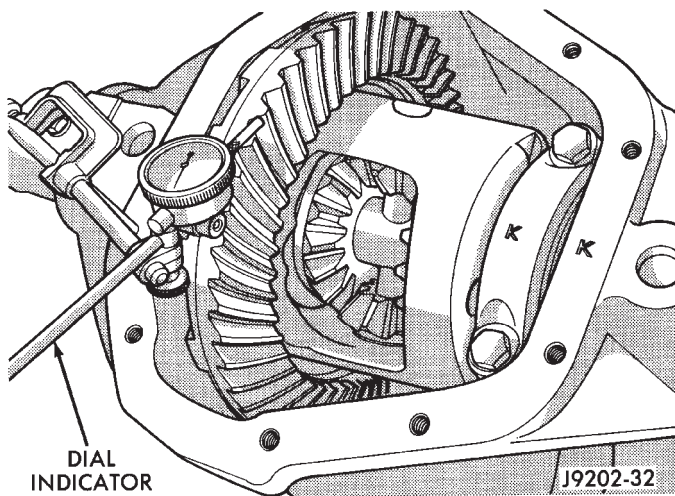
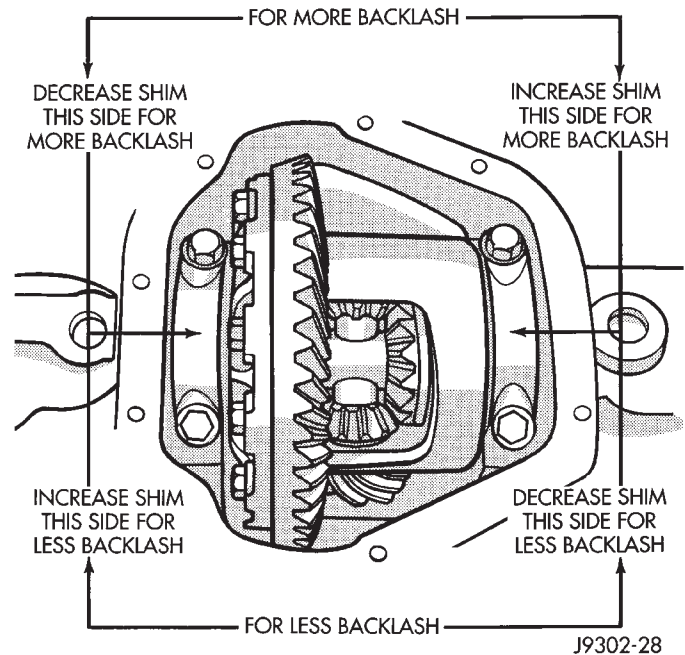

Fig. 77 Ring Gear Backlash Measurement
Fig. 78 Backlash Shim Adjustment
(34) Position the indicator plunger against a ring gear tooth (Fig. 77).
(35) Push and hold ring gear upward while not allowing the pinion gear to rotate.
(36) Zero dial indicator face to pointer.
(37) Push and hold ring gear downward while not allowing the pinion gear to rotate. Dial indicator reading should be between 0.12 mm (0.005 in.) and 0.20 mm (0.008 in.). If backlash is not within specifications transfer the necessary amount of shim thickness from one side of the differential housing to the other (Fig. 78).
(38) Verify differential case and ring gear runout by measuring ring to pinion gear backlash at several locations around the ring gear. Readings should not vary more than 0.05 mm (0.002 in.). If readings vary more than specified, the ring gear or the differential case is defective.